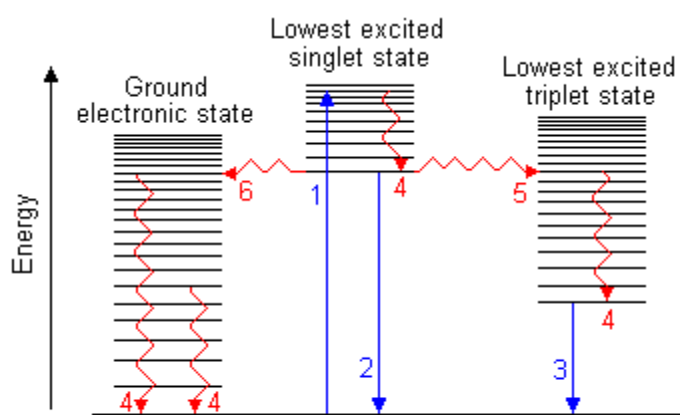

Figure 1
5. From the following Jablonsky diagram (Figure 1), explain all the electronic transitions involved in the molecule.